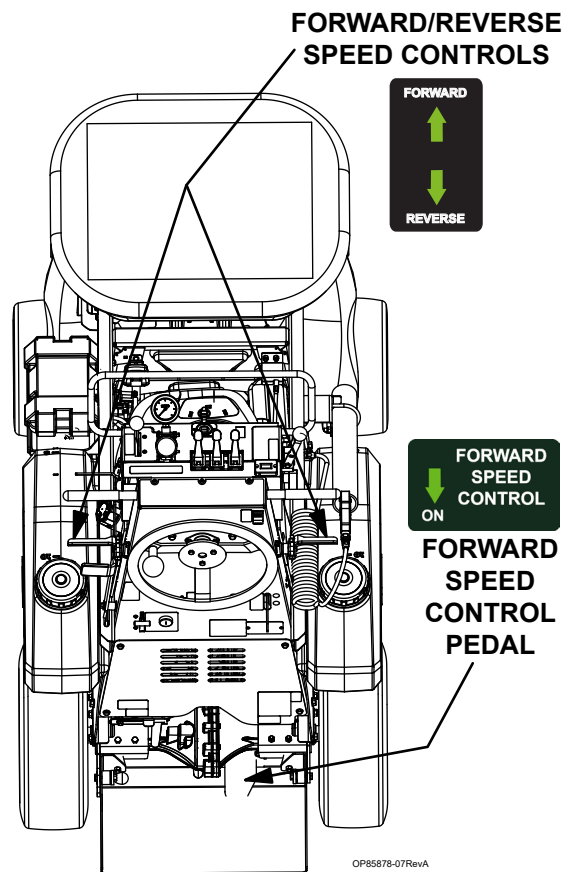

FIGURE 4
**Using Forward Speed Control Pedal (See Figure 4)**